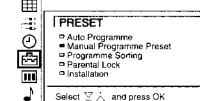

Fig. 6
- Select the symbol for »Preset« with Δ or ∇ — and press OK. The PRESET menu appears. (See Fig. 6.)